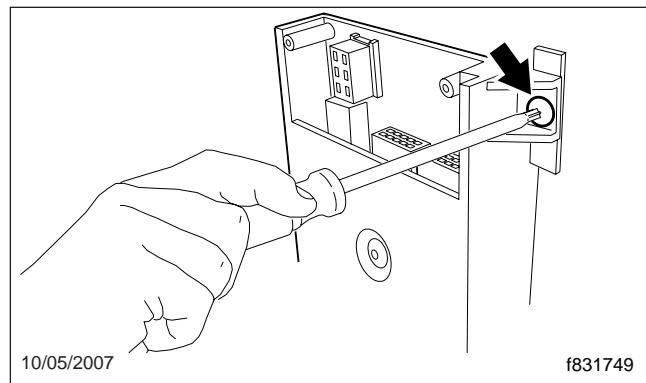

**Fig. 5, Fuse Panel and Separator**
7. Remove the four sheetmetal screws that hold the electrical box to the front of the unit, and tilt the electrical box away from the unit. See Fig. 5.